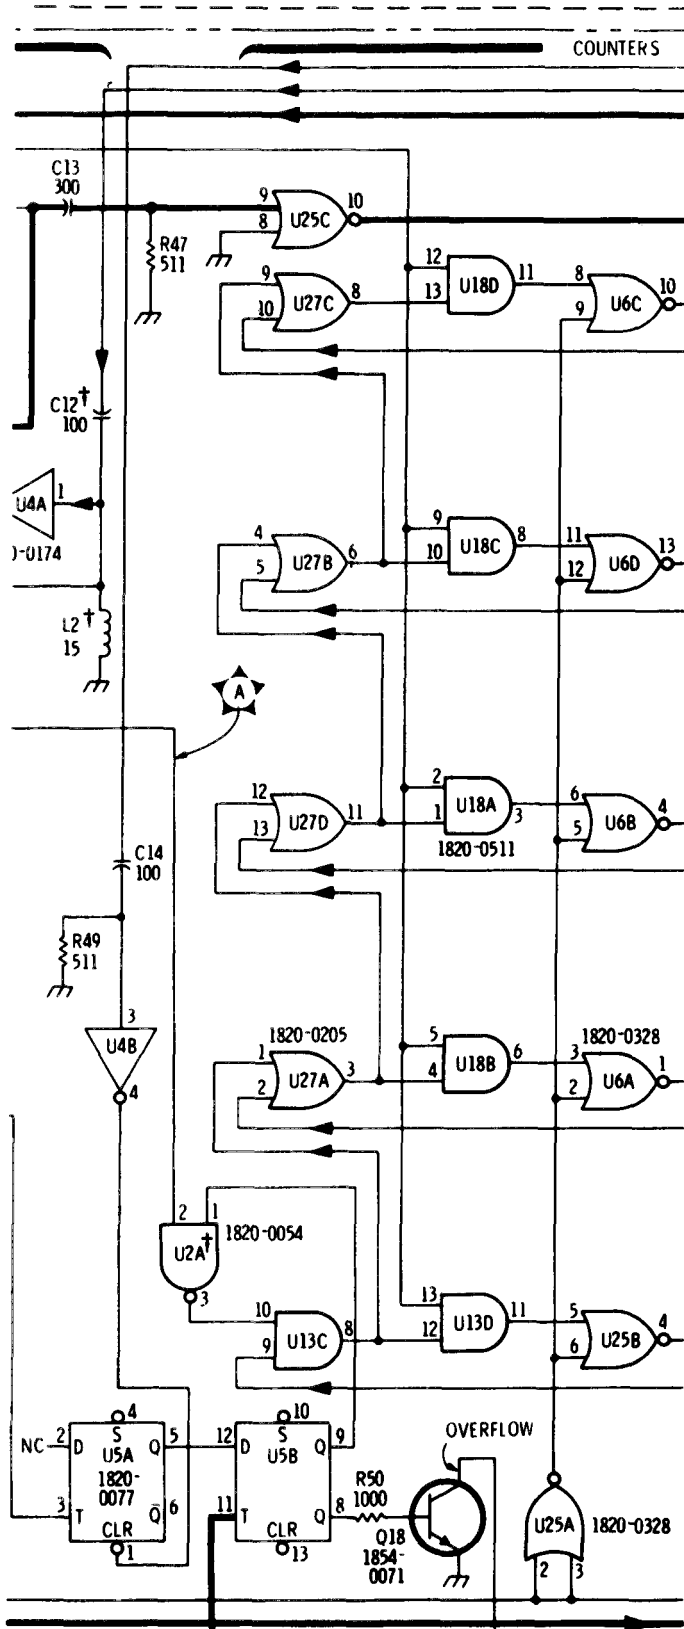

*Figure 8-66. P/O A8A2 Counter/Lock Board Assembly Component Locations (P/O Change 6)*
**Repace Figure 8-66 with attached figure.**